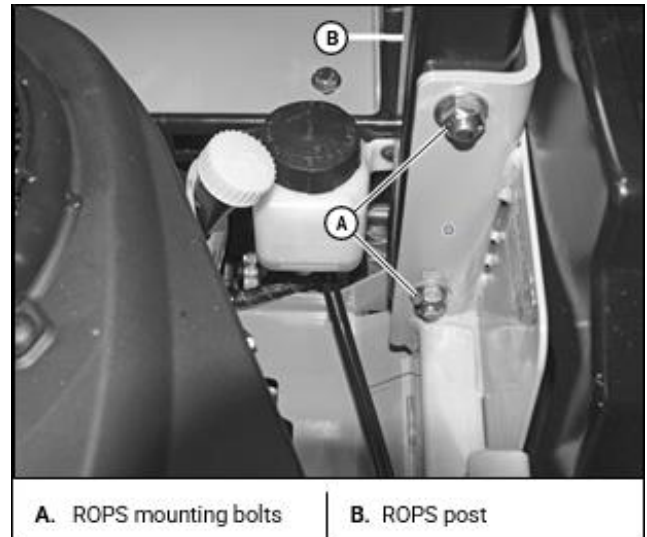

Figure 7
1. Check the torque of the ROPS mounting bolts. Tighten the bolts to the correct torques as shown below if necessary. [Figure 7]